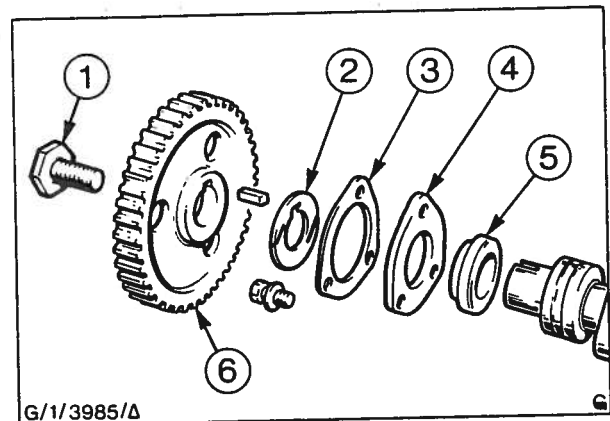

Fig. 52 - Camshaft Gear Assembly
29. Fit the camshaft thrust collar, shouldered face outermost, the thrust plate (well lubricated), and the lockplate. Fit the bolts but do not tighten - see Fig. 52.